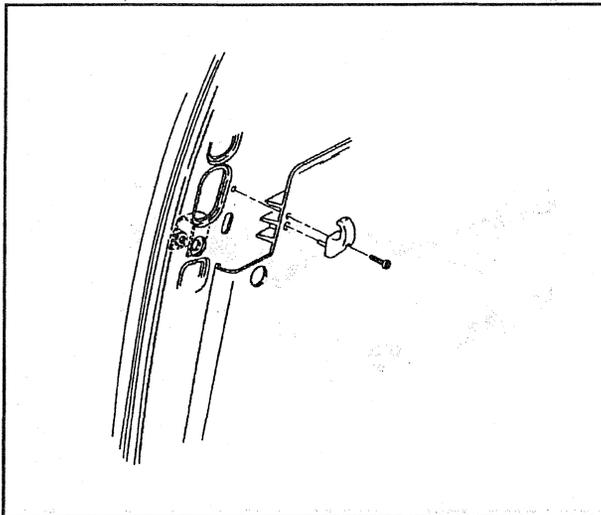

Figure 19—Coat Hook Replacement
**↔↔ Remove or Disconnect (Figure 19)**
**↔↔ Install or Connect (Figure 19)**